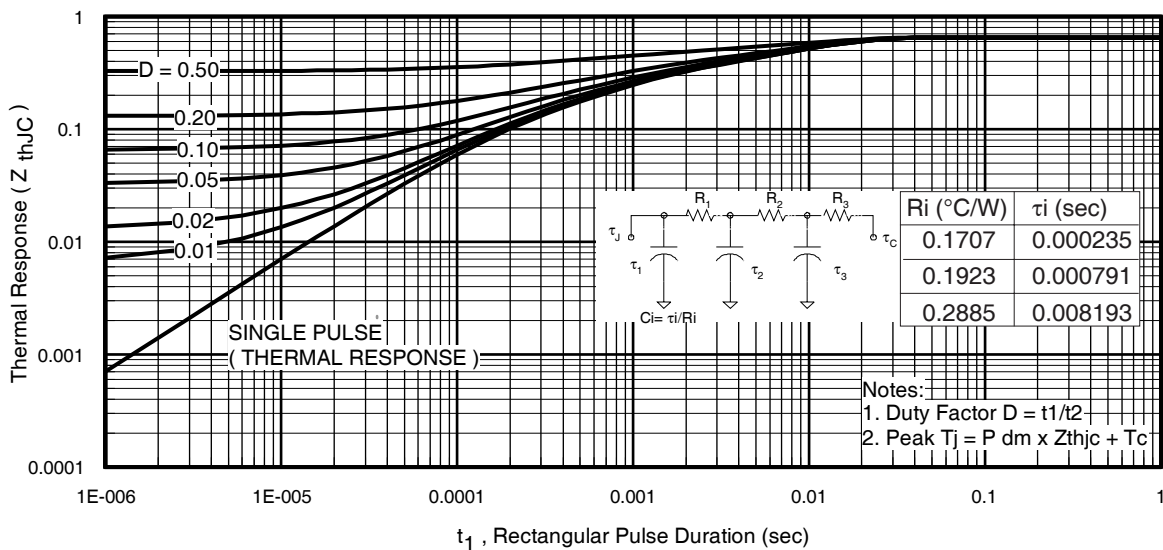
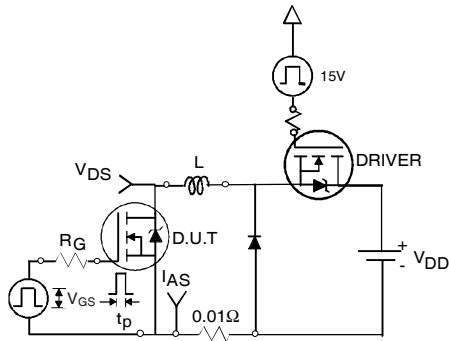

Fig 11. Maximum Effective Transient Thermal Impedance, Junction-to-Case
Fig 12a. Unclamped Inductive Test Circuit
- ① Repetitive rating; pulse width limited by max. junction temperature. (See fig. 11).
- ② Limited by T_{Jmax} , starting $T_J = 25^\circ\text{C}$, $L = 0.064\text{mH}, R_G = 25\Omega, I_{AS} = 88A, V_{GS} = 10V$. Part not recommended for use above this value.
- ③ Pulse width $\leq 1.0\text{ms}$; duty cycle $\leq 2\%$.
- ④ $C_{oss \text{ eff.}}$ is a fixed capacitance that gives the same charging time as C_{oss} while V_{DS} is rising from 0 to 80% V_{DSS} .
- ⑤ Limited by T_{Jmax} , see Fig.12a, 12b, 15, 16 for typical repetitive avalanche performance.
- ⑥ This value determined from sample failure population. 100% tested to this value in production.
- ⑦ This is applied to D²Pak, when mounted on 1" square PCB (FR-4 or G-10 Material). For recommended footprint and soldering techniques refer to application note #AN-994.
- ⑧ R_{θ} is measured at T_J of approximately 90°C .
- ⑨ Solder mounted on IMS substrate.
3. Equation below based on circuit and waveforms shown in Figures 12a, 12b.
$Z_{thJC}(D, t_{av})$ = Transient thermal resistance, see figure 11)